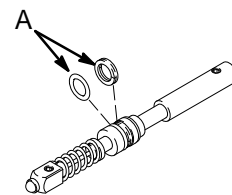

Fig. 8
6. Grease the rings (A) of the new needle (2c*). See Fig. 8.